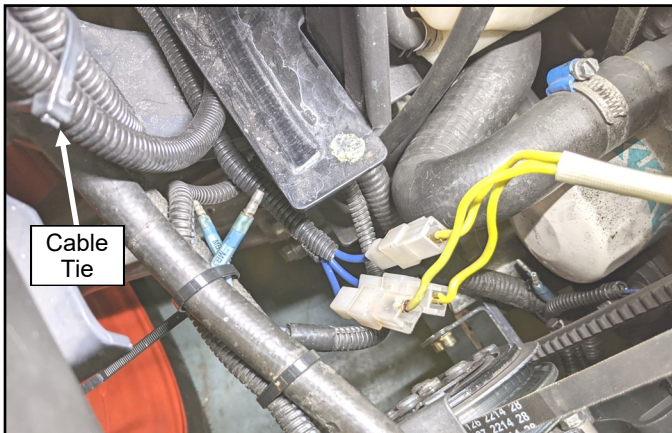

Fig. 7.3 (Connect Dynamo Wiring Harness)
7.3 See fig. 7.3. Connect the dynamo wiring harness to the dynamo. Using one cable tie, secure the wire harness to the compressor lines where compressor lines bend to go to the compressor. Ensure that the wire harness will not contact any sharp edges. Make sure hood closes without hitting the wire harness.